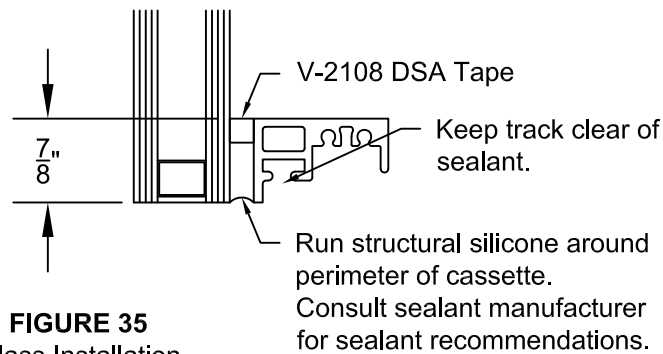

FIGURE 35
- 3.13 Using Structural Silicone as recommended by your choice of manufacturers. Apply sealant around perimeter of cassette unit and tool. Take care to keep sealant out of clip tracks. See FIGURE 35, PAGE 36